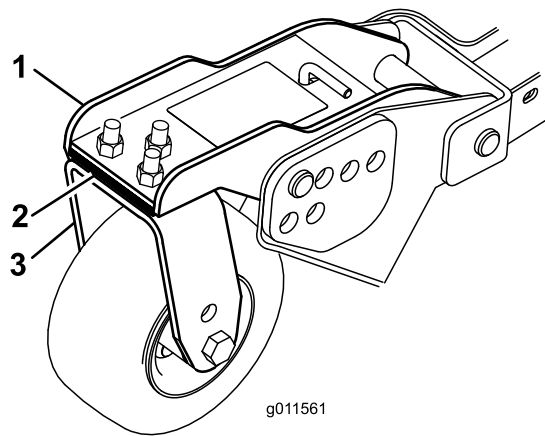

Figure 106
1. Remove the cap screws and nuts securing the castor arm to the castor fork (Figure 106).